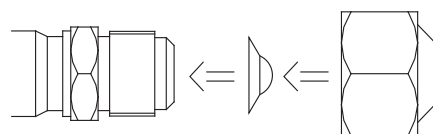

Fig.7
- For unused branch pipe, the pipe orifice should be sealed see fig.7.
- Each branch can connect one indoor unit only see fig.7; it cannot connect to another branch joint see fig.9.